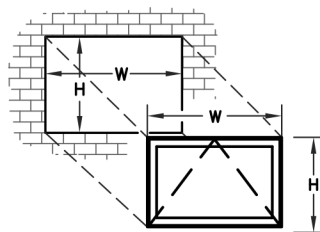

Figure 1
2. Confirm that the window size will properly fit into the rough opening. (Figure 1)